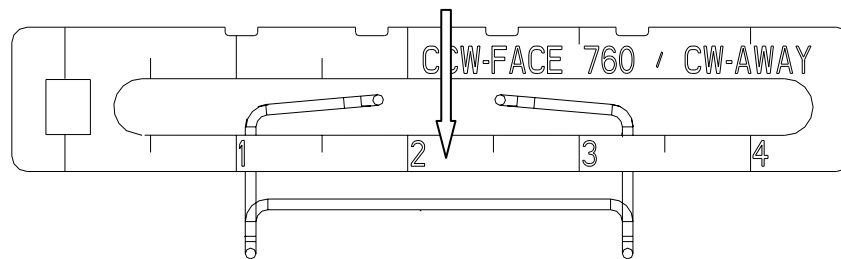

FIGURE 3 Pressing the Feedback Lever into the Retaining Clip
2. Orient the feedback lever (text side facing you) and retaining clip as shown in Figure 3. Align the clip with the lever as shown in the selected row in Table 2. (For example, the clip location for a valve travel of 3/4" Through 7/8" is shown below.)